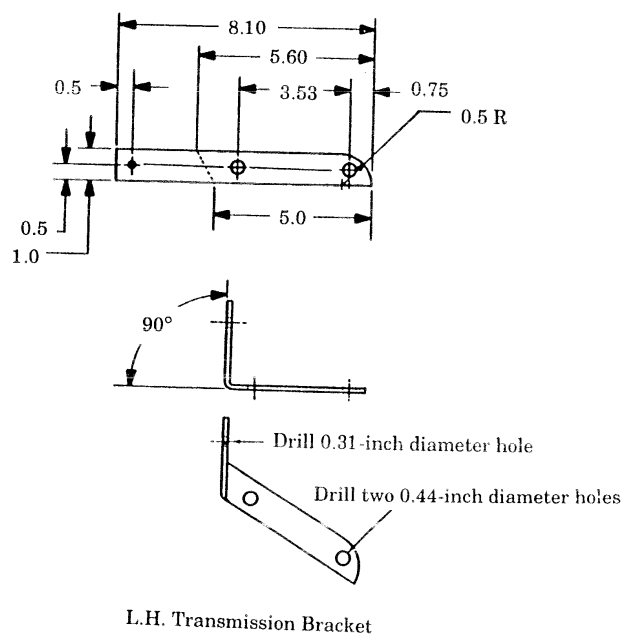

FIGURE 3-65
- (2) Using NSN 9510-00-294-0986 metal bar, fabricate L.H. transmission bracket. (see figure 3-65)